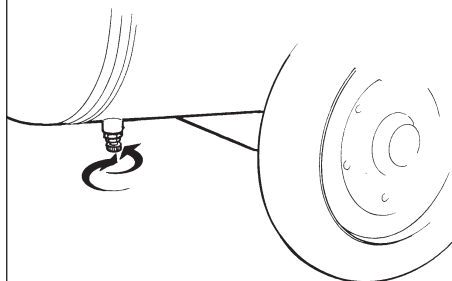

fig. 2
- check that the condensation outflow tap under the tank is closed (*fig. 2*);
- **Let the tank circuit pressure out by opening the condensation outflow tap before dismantling the pneumatic circuit (fig. 2). Unscrew carefully, so as to let out the air slowly. Watch the manometer to make sure that there is no pressure in the air circuit.**